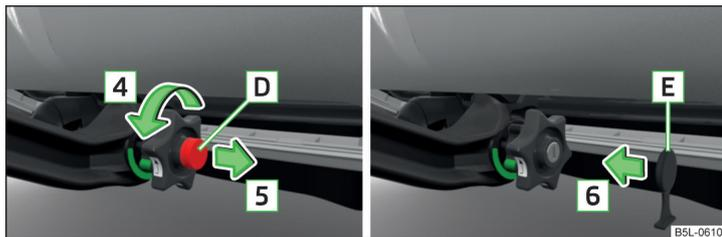

Fig. 151 Locking the lock and removing the the key/replacing the lock cap
- Lock the handwheel lock by turning the key **[D]** » Fig. 151 to the left in the direction of the arrow **[4]** to the stop, and remove the key in the direction of the arrow **[5]**.